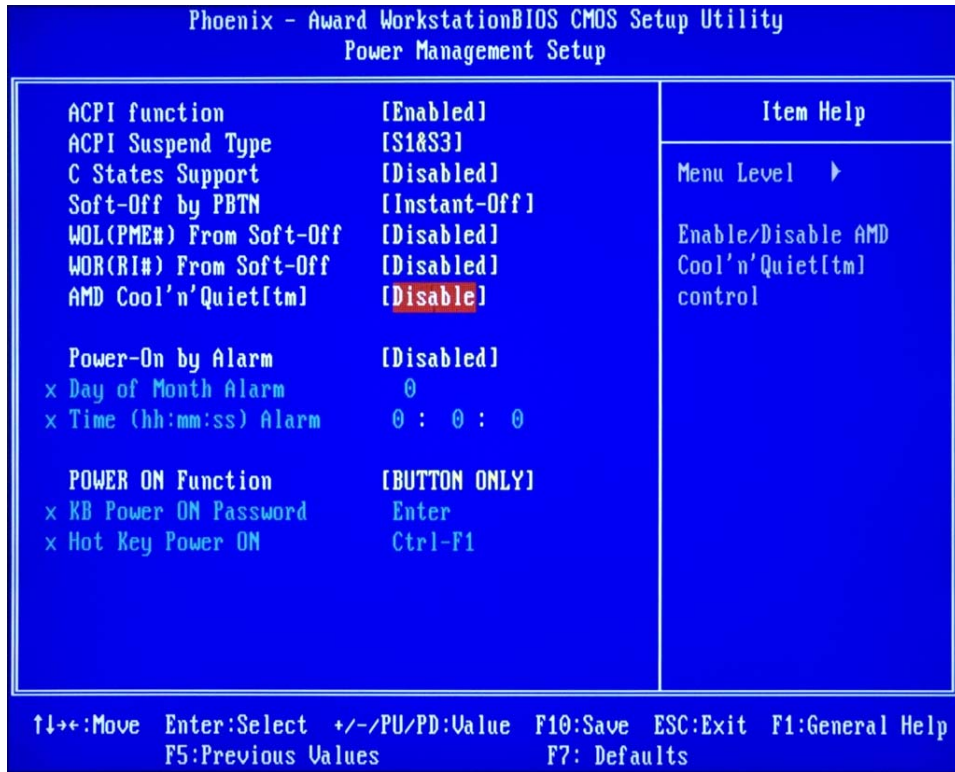

Figure 2. Power Management Setup SBIOS Menu
1. Set AMD Cool'n'Quiet to Disable on the Advanced Power Management BIOS menu as shown in Figure 2.